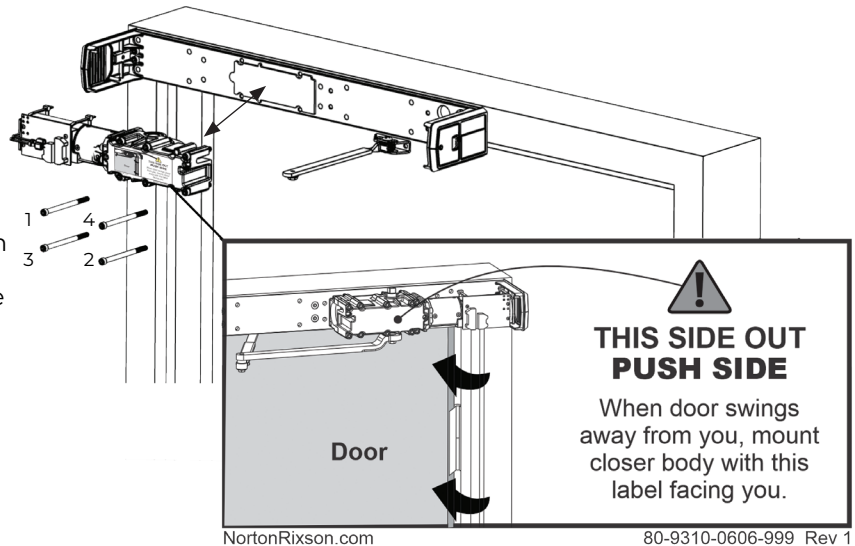

Figure 8 Left Hand Shown
1. Using the four (4) screws provided, install the operator body to the backplate. (Figure 8)
- Tighten screws in a cross pattern until all four (4) screws are tight. (Figure 8)
- "This side out PUSH SIDE" label is facing away from the backplate. (Figure 8)